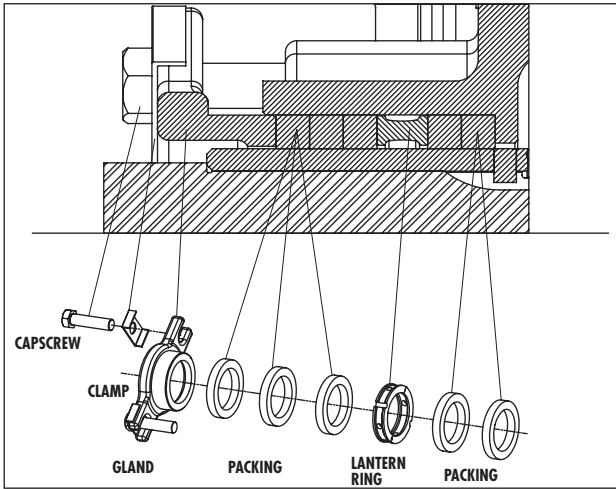

Figure 10. Packing.
- a. Remove capscrews (65), gland lamps (22) and gland halves (23).
- c. Thoroughly clean the shaft sleeve (25) and packing cover (26) seal cavity. Thoroughly inspect the bore of the Pump Packing Cover (26) and the Shaft Sleeve (25) for wear or signs that replacement is needed.
- d. Place one ring of packing (28) into the packing cover (26). On successive rings of packing stagger the packing joints to prevent excessive leakage through the packing box. If a lantern ring (29) is used, place a second ring of packing (28) into the cover before installing lantern ring. Refer to Fig. 10.
1. Replace the shaft sleeve (25) or packing cover (26) if there is evidence of surface damage like pitting, corrosion, nicks or scratches.
2. Replace wear ring(s) (7 & 16) in casing (6) and cover (26). Rings should not be hammered into place. Use a press or clamp the parts in a bench vice using wooden blocks to protect the rings.
- Place one ring of packing (28) into the packing cover (26). On successive rings of packing stagger the packing joints to prevent excessive leakage through the packing box. If a lantern ring (29) is used, place a second ring of packing (28) into the cover before installing lantern ring. Refer to Fig. 10.